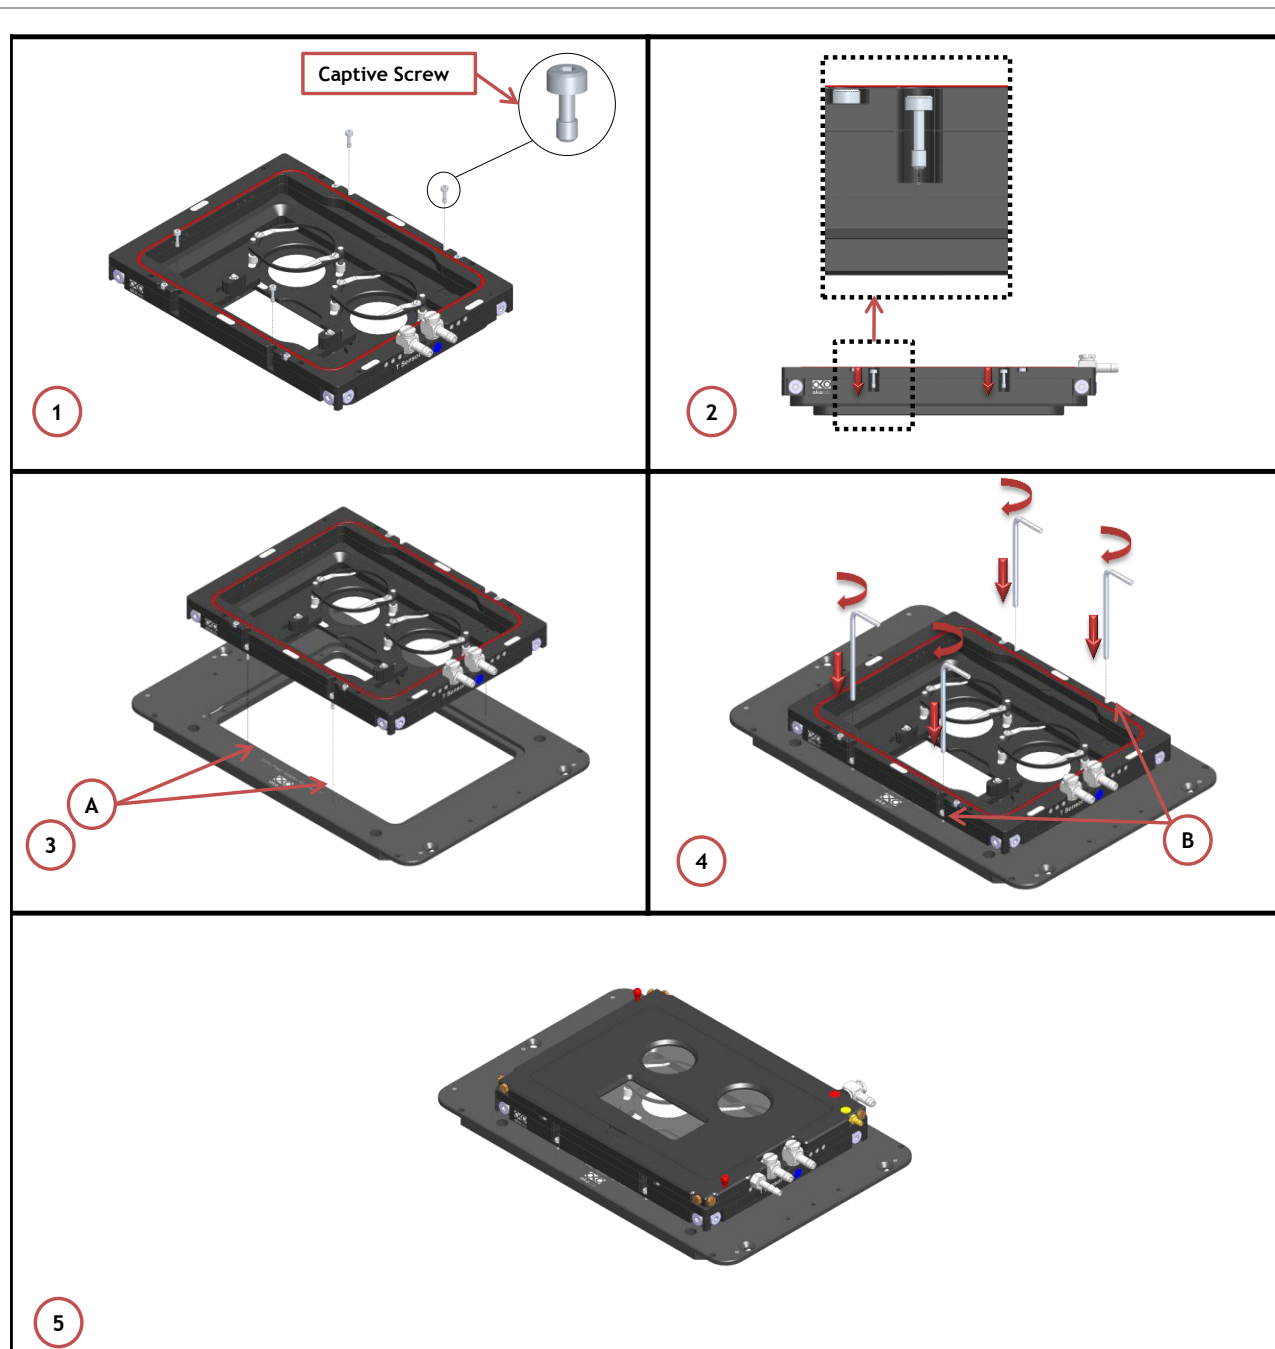

Figure 17. How to assemble the chamber to the adapter.
Follow the steps shown in the images of Figure 17 and listed below in order to correctly install the chamber onto XY stage:
1. See Figure 17 Images 1 and 2 for placing the captive screws in the proper housings
2. Place the chamber on the adapter as shown in Figure 17 Image 3
3. Use a 1.5mm metric Allen Wrench to tighten the four captive screws in the proper housings (A in Figure 17 Image 4)
4. Figure 17 Image 5 shows the chamber fixed on the adapter.